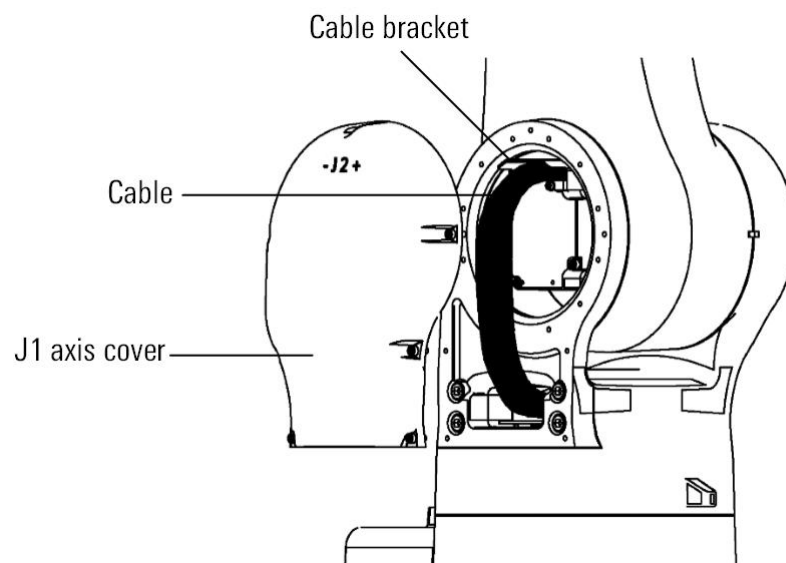

Figure 9-2 J1 shaft internal cable maintenance
- Step1. Remove the J1 shaft body cover, as shown in Figure 9-2.